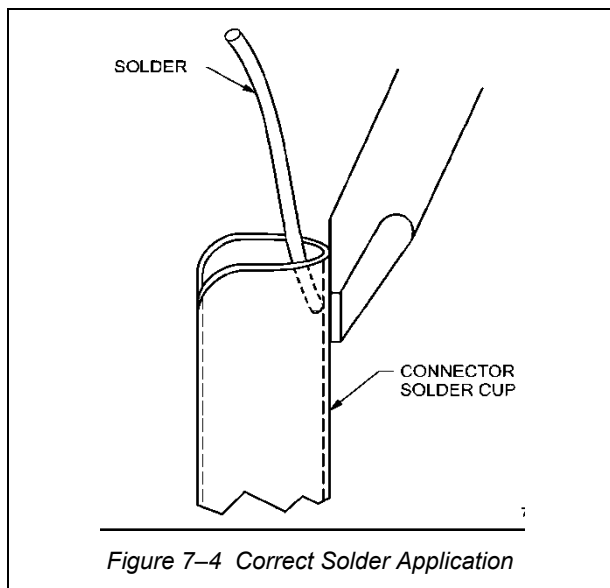

Figure 7-4 Correct Solder Application
31. Apply flux-core solder at the exact point between the metal and the soldering iron (as shown in Figure 7-4) and hold the iron directly against the assembly. Melt the solder on the joint, not the iron. Place the soldering iron firmly against the junction. If heavy "rocking" pressure is necessary, either the iron does not have sufficient heat capacity for the job, or it has not been properly prepared, or both.